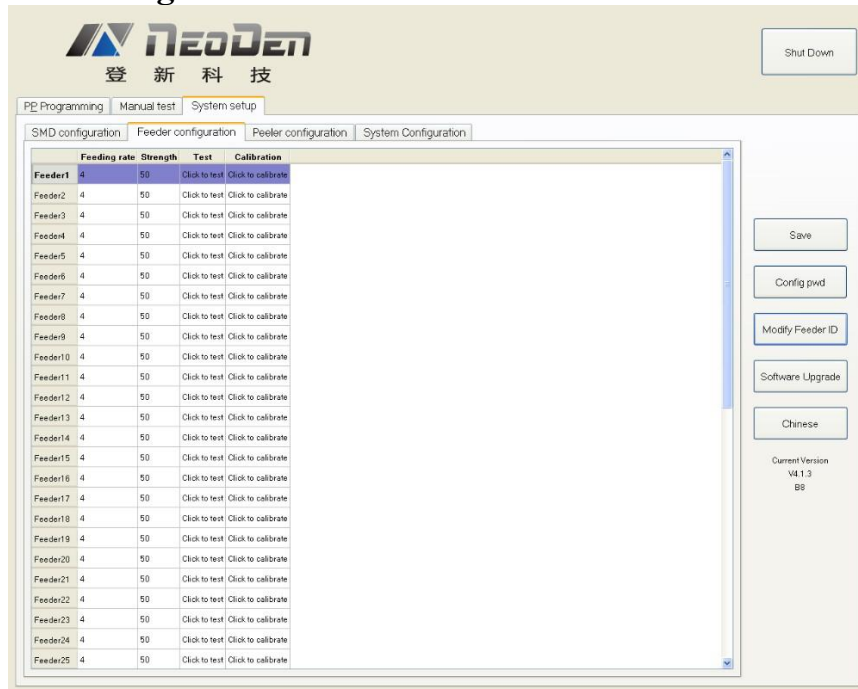

Figure 4.25
**Feeding Rate.** For each feeder, this dropdown menu allows the user to set the distance in mm that the feeder advances. For 0402 and 0201 components, this value is normally set at 2. For components including 0603, 0805 and 1206, the value is normally set at 4. Certain larger components will require larger values. See the Figure 4.25.